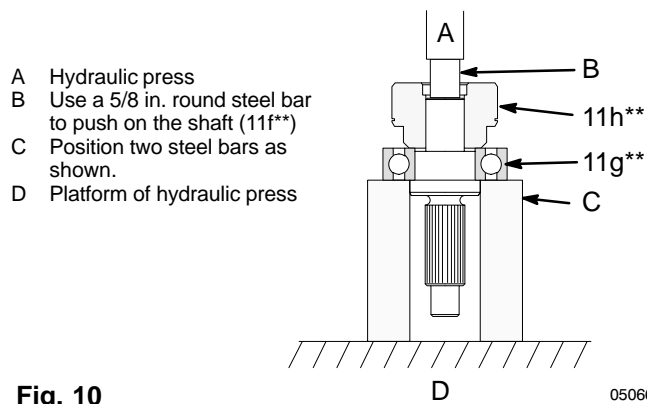

Fig. 10 05066
4. **Using a hydraulic press**, place pieces of steel bar stock on the inner race of the bearing (11g**) and press the shaft through the hub and bearing. See Fig. 10.